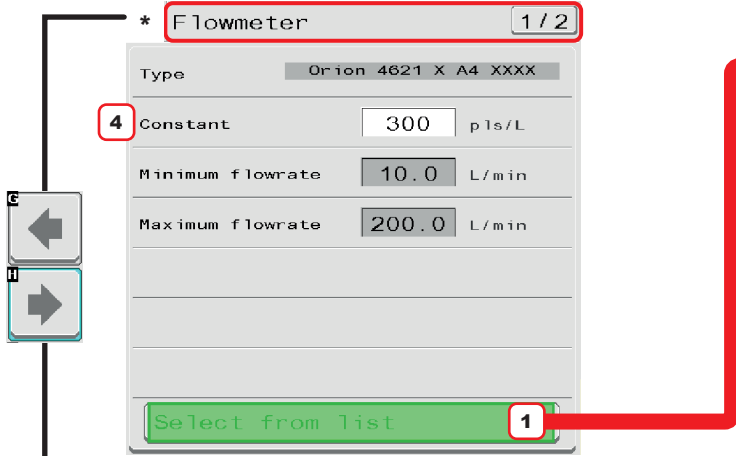
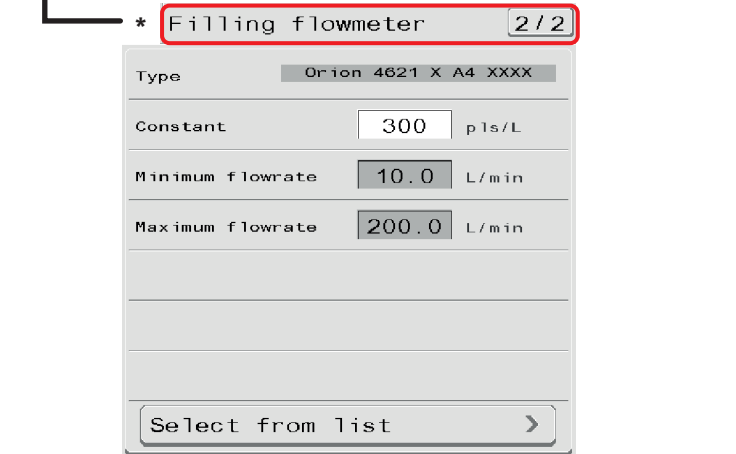

Fig. 43
Fig. 45
- \* Use keys H and G to move between the pages Flowmeter (Fig. 43) and Filling flowmeter (Fig. 45).